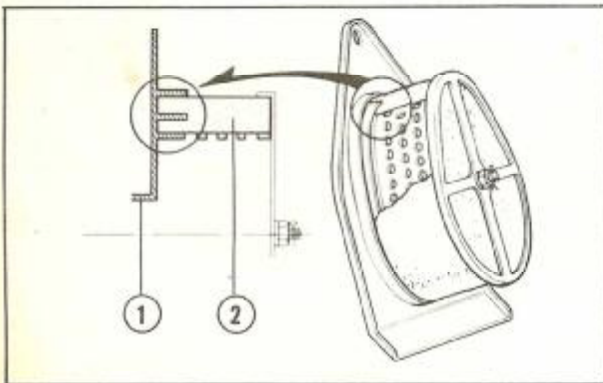

Fig. 2-21 ① Mounting base
5. Install the element on its mounting base as shown in Fig. 2-21. Install the lock nut and lock pin.